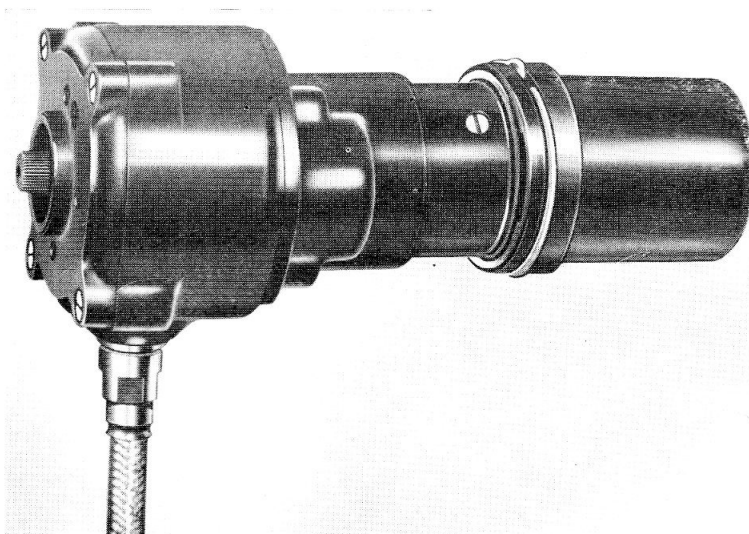

Fig. 1. Type C5523/2 actuator
1. This actuator (*fig. 1*) is generally similar to that described in the main chapter. The rotary movement of the output shaft is limited to 90 deg. by the two internal limit switches.